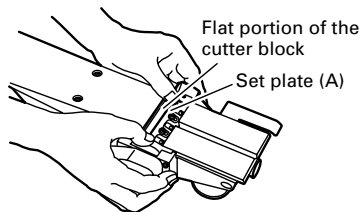

Fig. 12
- (5) As shown in **Fig. 12, 13**, insert a turned portion of set plate (A) attached to set plate (B) into a groove on the flat portion of the cutter block.